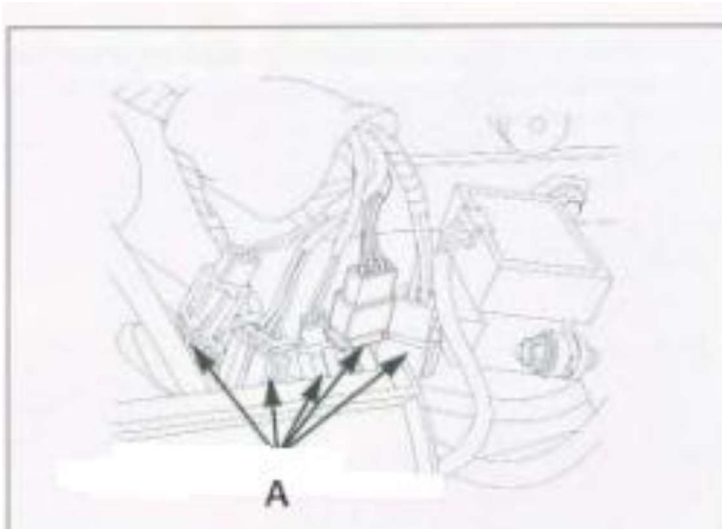

Figure 27
13. Connect all the electrical cable (Figure 27, item B) to the engine as per labels.